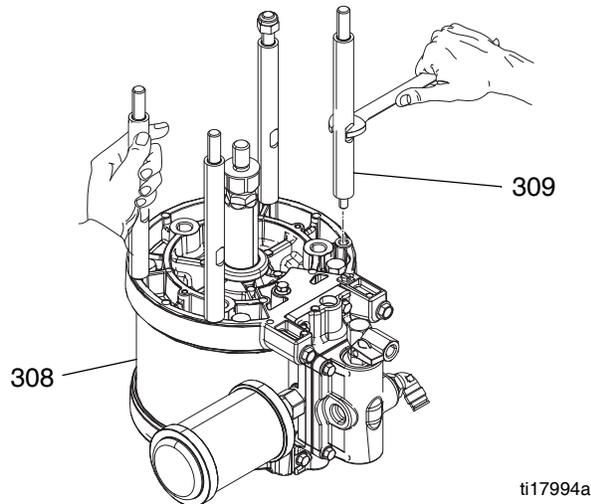

FIG. 3
- Install tie rods (309) in the bottom of the air motor (308). See FIG. 3.